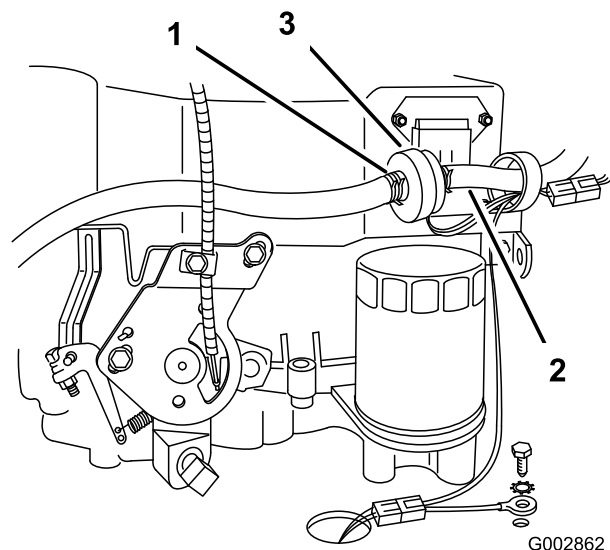

Figure 36
3. Squeeze the ends of the hose clamps together and slide them away from the filter (Figure 36).